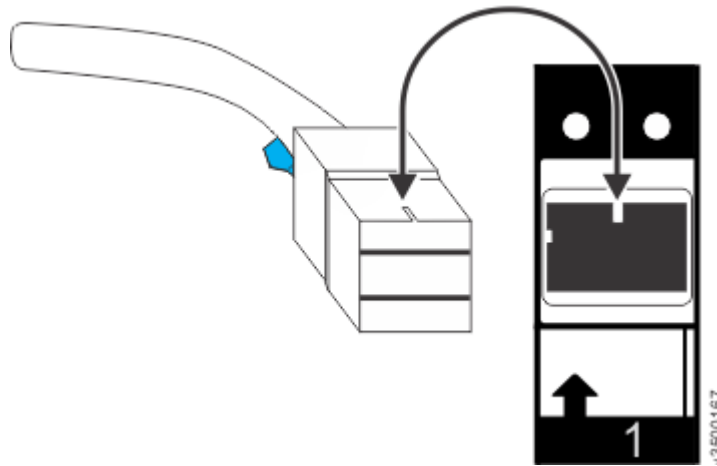

Figure 95. Proper orientation for SAS cable connector
- Figure 95 on page 140 shows the correct orientation. The blue tab is always below the port for expansion enclosure attachment SAS cables.